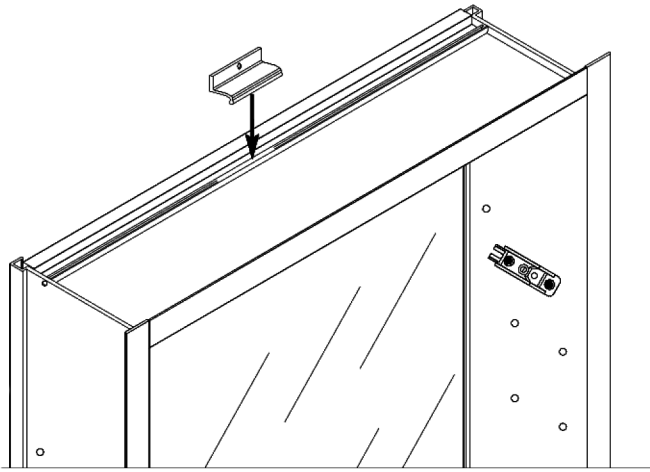

FIG 11
6. Insert surface mount z-clips as shown (Fig 11 & 12).